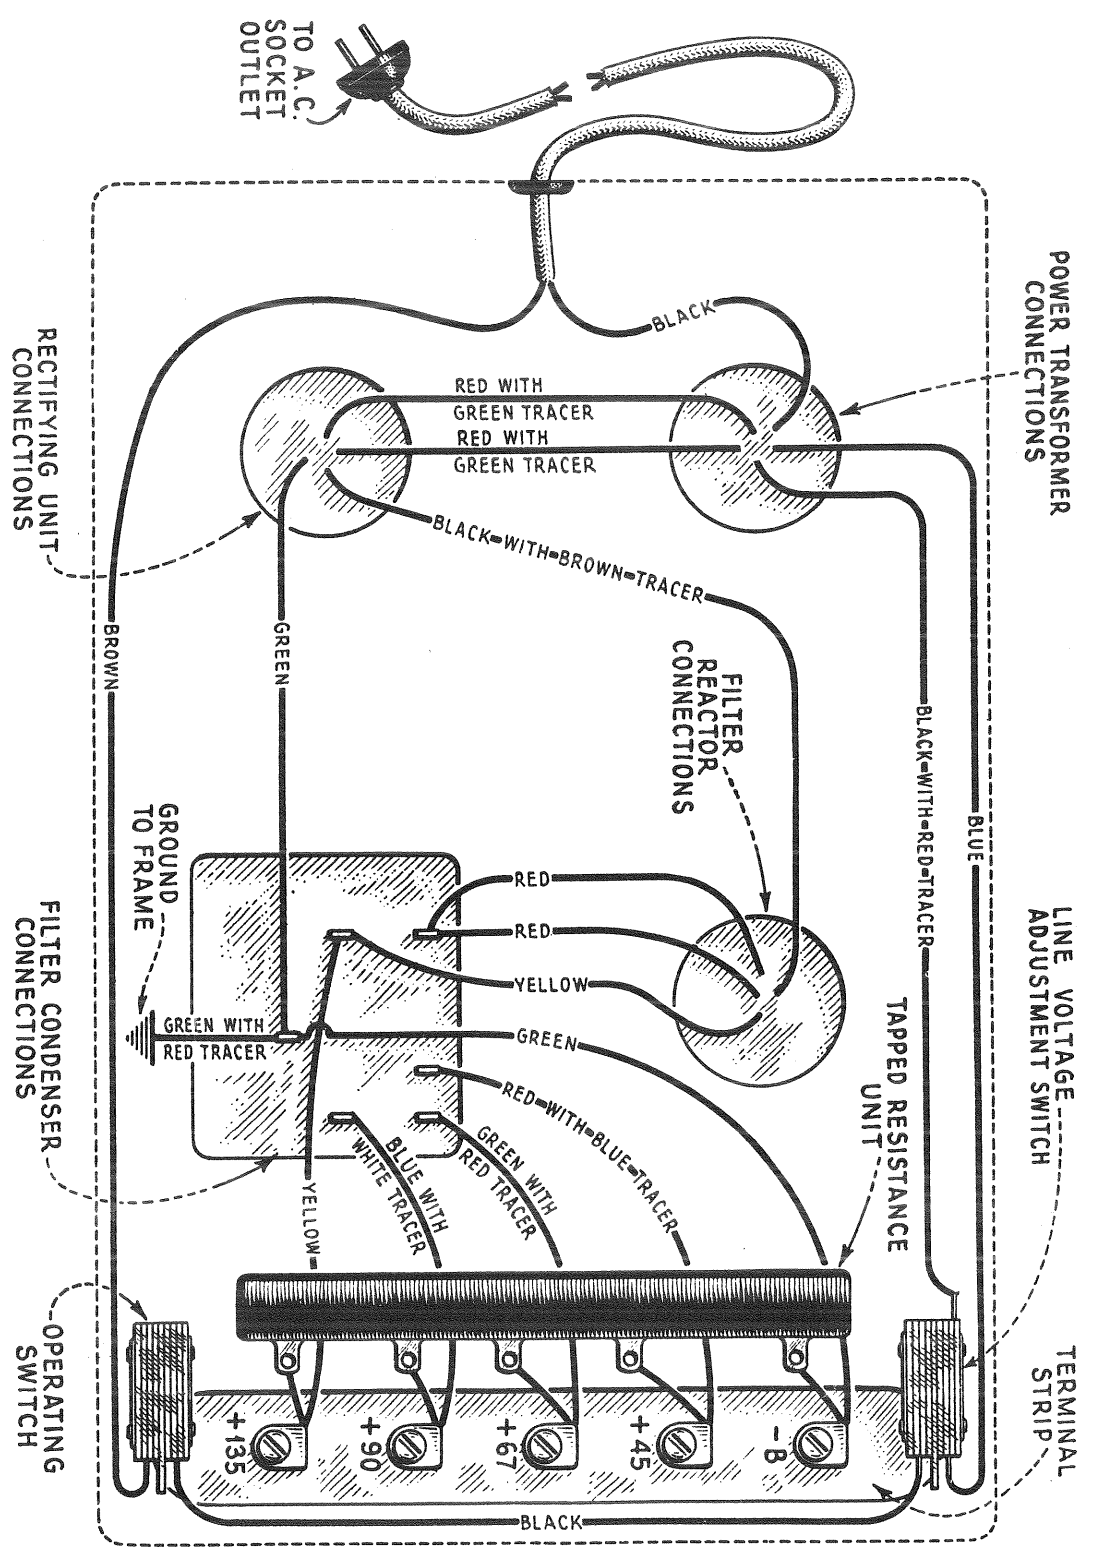

Figure 3—Sub-classis view of the RCA B-Eliminator showing color scheme of wiring and connections
- (d) Resolder the connections that were removed. These are shown in Figure 3.